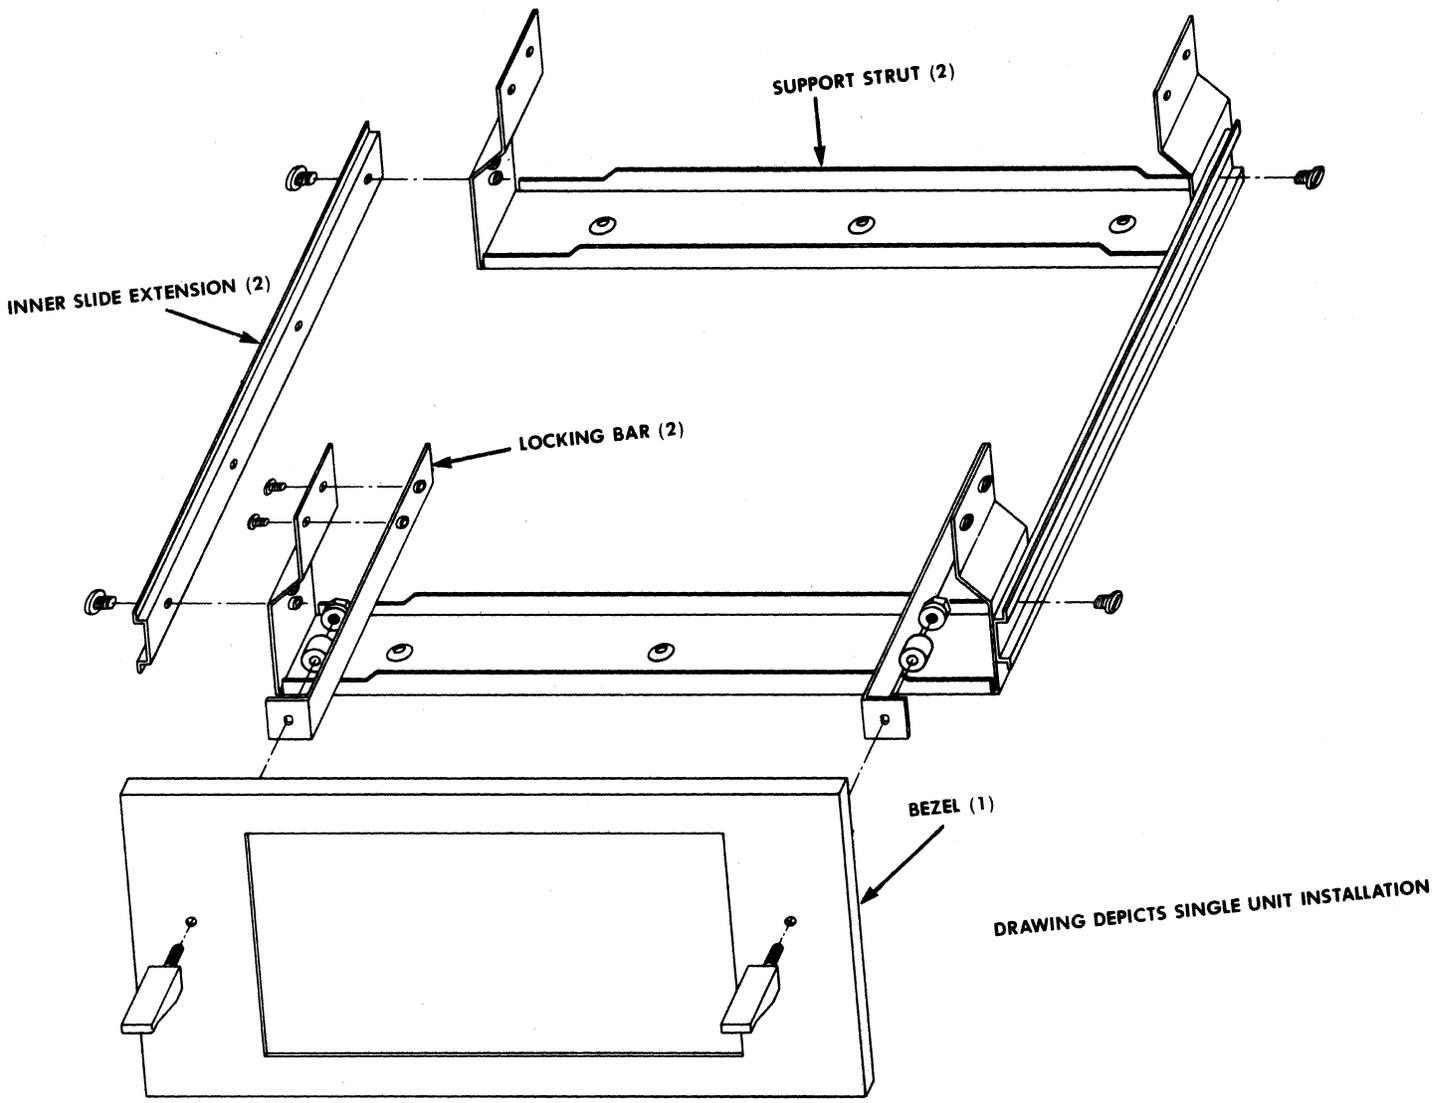

Fig. 8—Rack Slide Assembly Installation Components for the Comm-Stor II Unit
- (a) Remove the inner section of the slide assemblies and attach to the support struts as shown (Figure 8) using four #10-32 x 3/8 screws. Each end of the support struts has two thread inserts for this purpose. When rack mounting a single diskette drive unit, use only the lower inserts for attaching the slide extensions. When mounting a dual diskette drive unit, the upper ones are used.